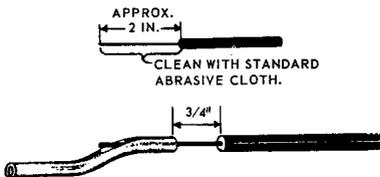

FIGURE 15. Placing Bridle Wire in the Sleeve.
- b. Insert the cleaned wire in the sleeve so the end of the insulation is $\frac{3}{4}$ inch from the end of the sleeve. See Figure 15.